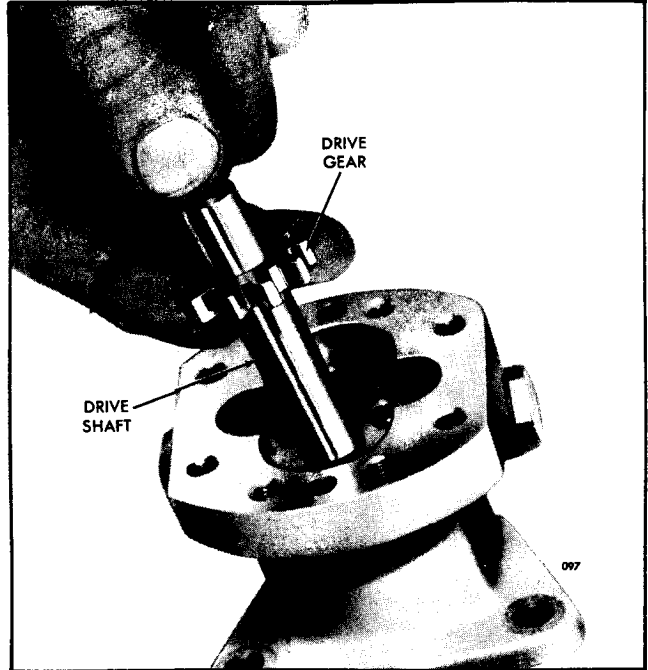

Fig. 9 - Installing Fuel Pump Drive Shaft and Gear Assembly
4. Lubricate the pump shaft and insert the square end of the shaft into the opening at the gear side of the pump body and through the oil seals as shown in Fig. 9.